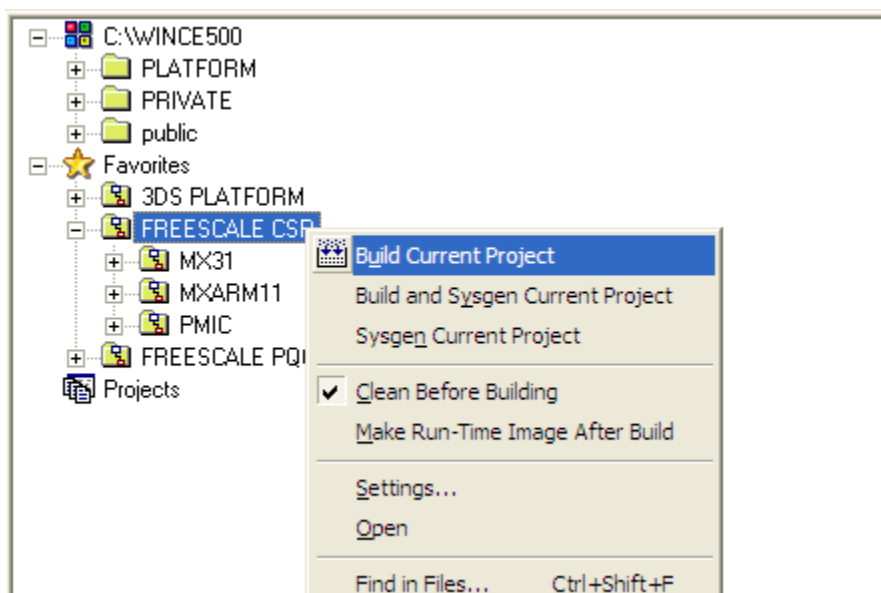

Figure 4-1 Building CSP Libraries
6. Right-click on the FREESCALE CSP folder again and select **Build Current Project** (Figure 4-1).